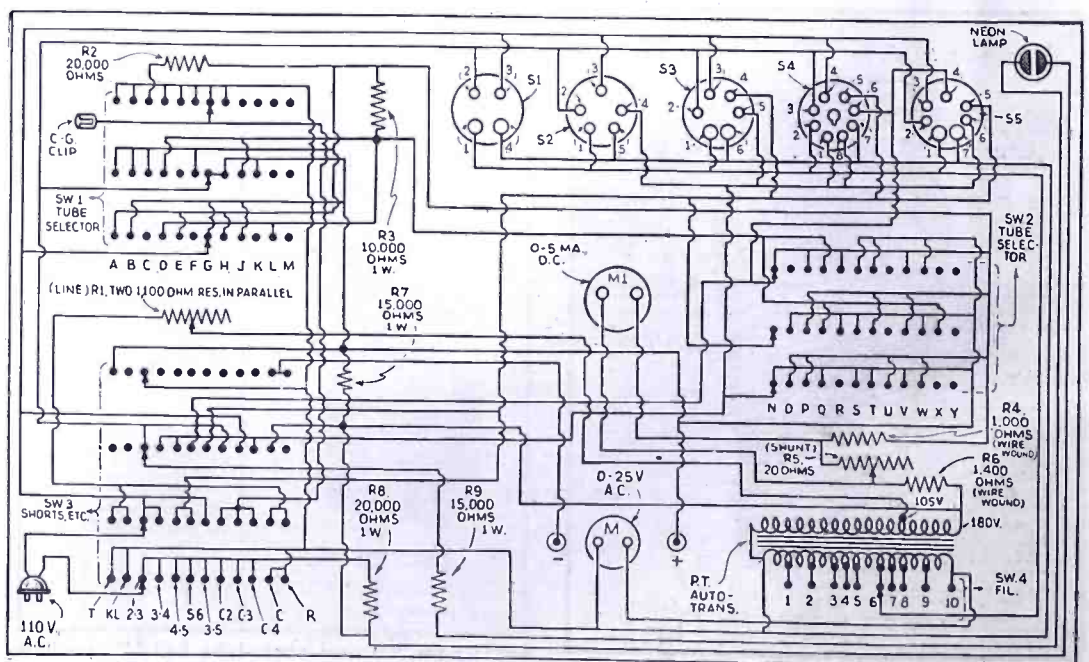

Fig. 1. The schematic circuit of the tube tester, and resistance and capacity meter.
One ingenious idea that cut the cost of the tester is the use of a plain aluminum panel. This panel was carefully drilled as indicated in Fig. 1, with a series of beveled 1/4-in. holes, located at each indicator marking position of the selector switches. Four pieces of white cardboard 2 3/8 ins. square with appropriate numbers and letters carefully drawn with india ink provided the scale markings for the various test positions. Transparent celluloid was used to cover the scales for protection from dust and damage.
After the switch wiring is finished and checked start mounting all of the parts on the aluminum panel including the indicator scales. The proper placement of the parts can be checked from the bottom view photograph and the mechanical drawing. The electrical circuit drawing of Fig. 1 is so laid out that all of the parts are in their proper mechanical place as well as showing the electrical connections. Test for panel shorts between alive terminals and the insulated jacks with an ohmmeter.
**The "Electric Eye" Auto-Speed Indicator.** On the cover of this issue of *Radio-Craft* is depicted in colors an artist's conception of the new RCA roadside vehicle speed indicator recently demonstrated by its inventor, F. H. Shepard, Jr. (The circuit of a *demonstration* set-up is given in Fig. 1.)